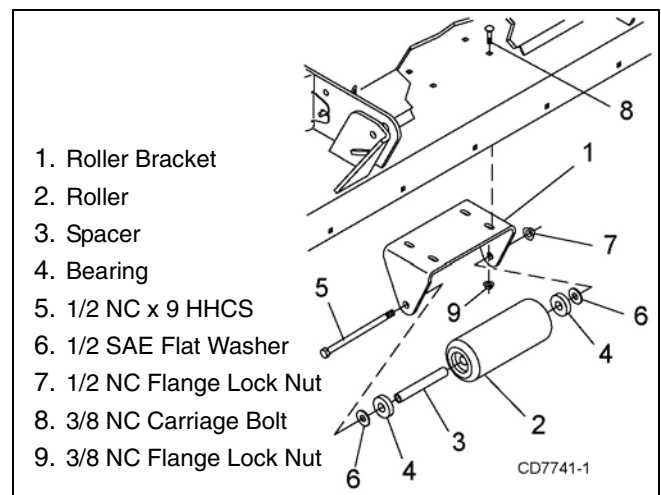

Figure 32. Front Roller Installation
2. Insert four carriage bolts (8) through top of deck plate.
3. Place roller bracket (1) over bolts; then install flange lock nuts (9) on bolts and tighten.
4. Place front roller (2), two bearings (4), spacer (3) and two SAE flat washers (6) between roller bracket as shown in Figure 32.
5. Insert cap screw (5) through bracket and roller.
6. Secure with flanged lock nut (7). Do not overtighten, roller must spin freely.